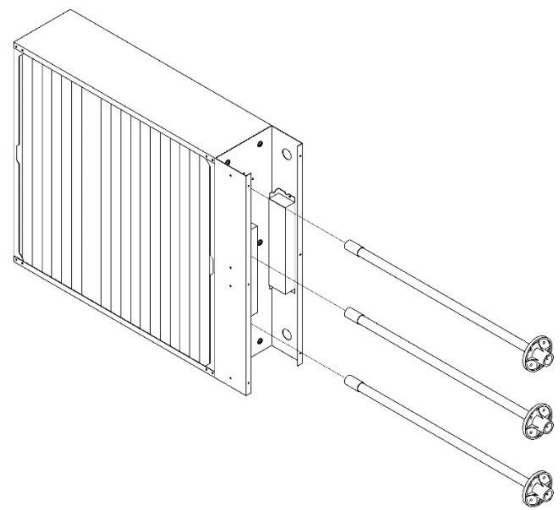

Figure 16
7.) Remove lamps by alternating a quarter turn clockwise and a quarter turn counterclockwise as it is pulled out. This will prevent the lamp from becoming bound up in the catalyst media. See Figure 16.
9.) Replace lamps by alternating a quarter turn clockwise and a quarter turn counterclockwise as it is pushed in. This will prevent the lamp from becoming bound up in the catalyst media. See Figure 16.